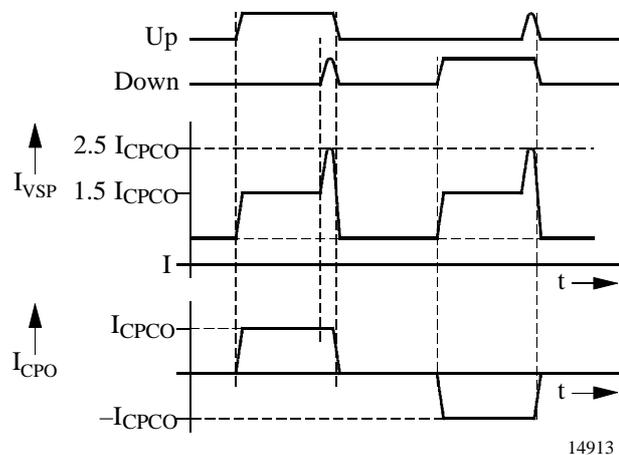
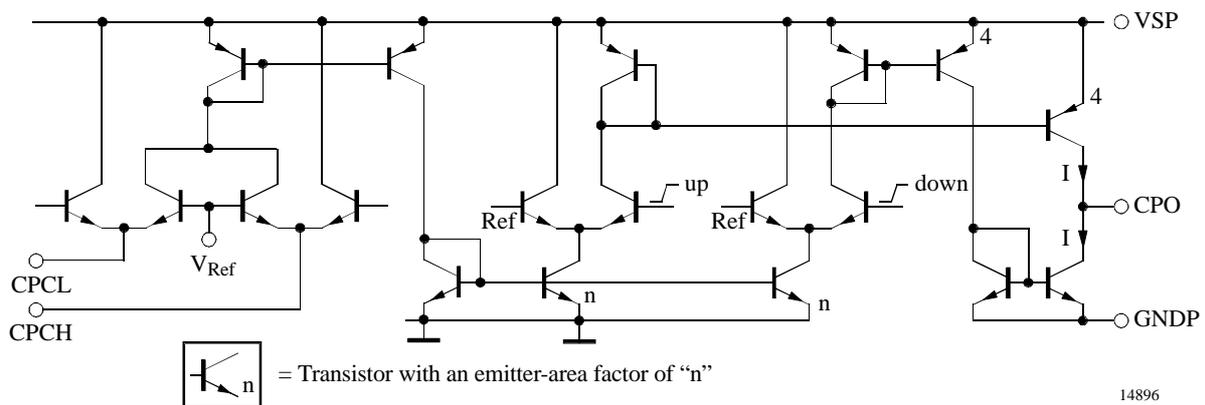

Figure 3. Supply current of the charge pump
Figure 6. Charge pump
- 1) Mean value, measured with  $F_{ND} = 151 \text{ MHz}$ ,  $F_{RD} = 150 \text{ MHz}$ , current vs. time, figure 3
Due to the pulsed operation of the charge pump, the current into the charge-pump supply Pin VSP is not constant. Depending on I (see figure 6) and the phase difference at the phase-detector inputs, the current IVSP over time varies. Basically, the total current is the sum of the quiescent current, the charge-/discharge current, and – after each phase comparison cycle – a current spike (see figure 3).